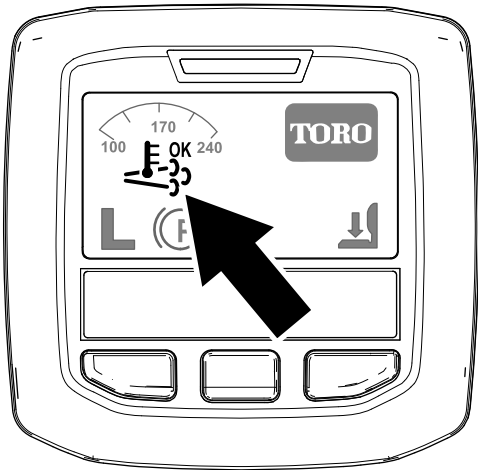

Figure 37
- The assist/reset-regeneration icon displays in the InfoCenter (Figure 37).